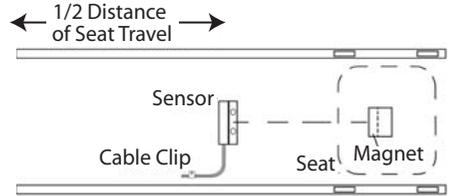
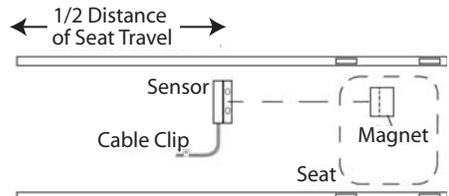
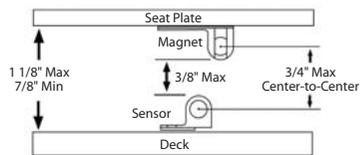

FIGURE 1a: SENSOR & MAGNET INSTALLATION (Sensor Installed on Centerline of Seat)
FIGURE 1b: SENSOR & MAGNET INSTALLATION (Sensor Offset Centerline of Seat)
FIGURE 2: SENSOR & MAGNET SPACING
Refer to Figures 1a and 1b. Note the position of the sensor - it should be close to the center of the seat travel and it **MUST** be perpendicular to the long axis of the shell.
It is not necessary for the sensor and magnets to be centered between the rails as shown in Figure 1a. They may be positioned off center as shown in Fig 1b. However, the holes in the magnet assembly **MUST** pass directly over the holes in the sensor. The dashed horizontal line in each figure indicates the correct alignment.
Because the distance between the seat plate and the deck varies considerably from shell to shell, you should start by measuring this distance. Refer to Figure 2.
- If the distance measured as in Figure 2 is between $\frac{7}{8}$ " and $1 \frac{1}{8}$ ", you may mount the sensor and magnet with no further adjustment.
- If the distance measured as in Figure 2 is **GREATER** than $1 \frac{1}{8}$ ", you will need to make a spacer of appropriate thickness. You may choose to shim the sensor or the magnet; whichever is easier. **DO NOT** use any magnetic material for your shim. Many boat builders have shims designed to fit their particular seats.
- If the distance measured in Figure 2 is **LESS** than $\frac{7}{8}$ ", the magnet and the sensor will interfere. Try mounting the magnet on the upper side of the seat plate or the sensor on the underside of the deck. As a last resort, you will have to remove material from either the seat or the deck (this almost never needs to be done).
- 5) Return the stroke seat to its slide and check that the clearance between the magnet and sensor is no more than 3/8" (refer to Fig 2). Check also that the magnets pass directly over the sensor (refer to Figures 1a, 1b).